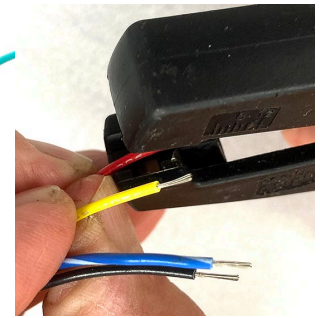

Figure 9
2. Pull back the black harness sheathing and strip each wire (see Figure 9).
2. Pull back the black harness sheathing and strip each wire (see Figure 9 above).